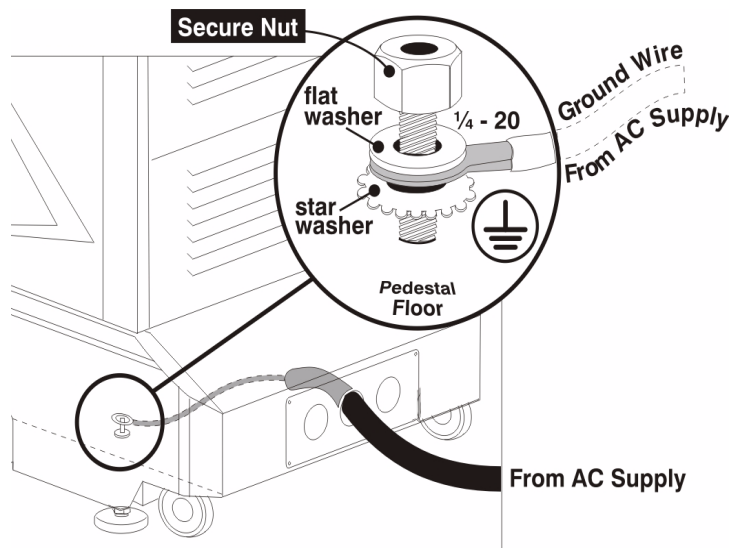

**Figure 3-19 Lamp Cradle Position**
- For 2.0 or 3.0 kW lamps, move the cradle to the rear position, i.e., approximately 1” closer to the reflector (**Figure 3-19**).